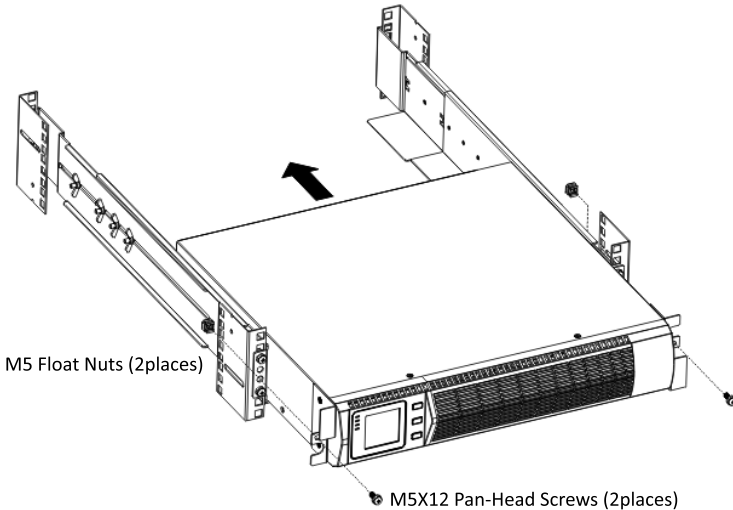

FIG. 5 Securing the Front of the Cabinet
12. Secure the front of the UPS to the rack using one M5×12 pan-head screws and one M5 cage nuts on each side (see FIG. 5). Install the bottom screw on each side through the bottom hole of mounting bracket and the bottom hole of the rail.